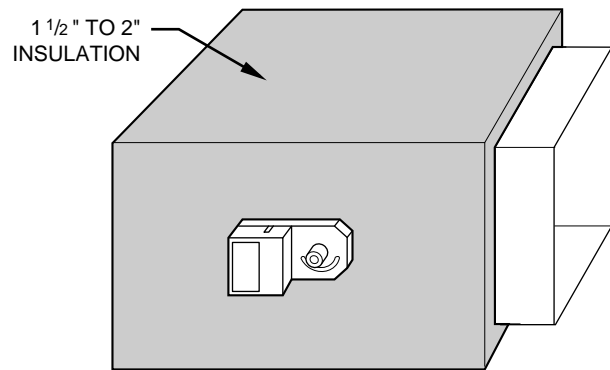

Fig. 4—Insulated Rectangular Metal Duct Work
3. Insulate damper using 1-1/2 in. to 2-in. insulation. (Check your local codes.) (See Fig. 4.)